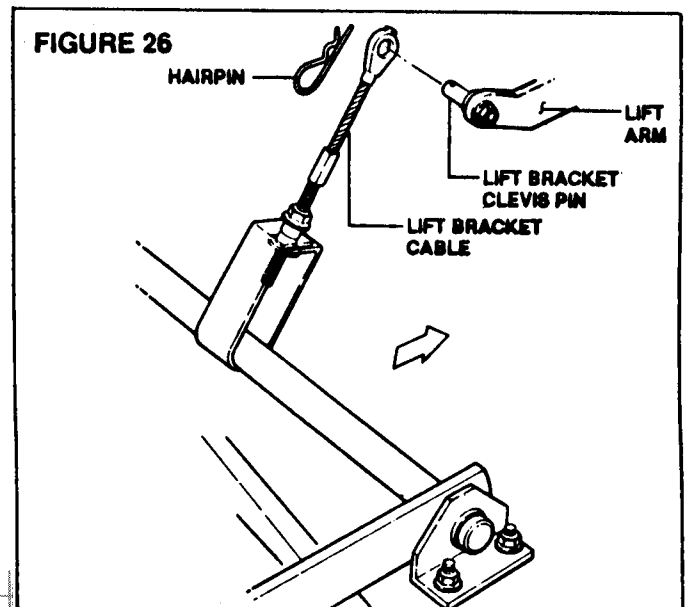

FIGURE 26
- Remove hairpin from LIFT BRACKET CABLE clevis pin. See Figure 26.